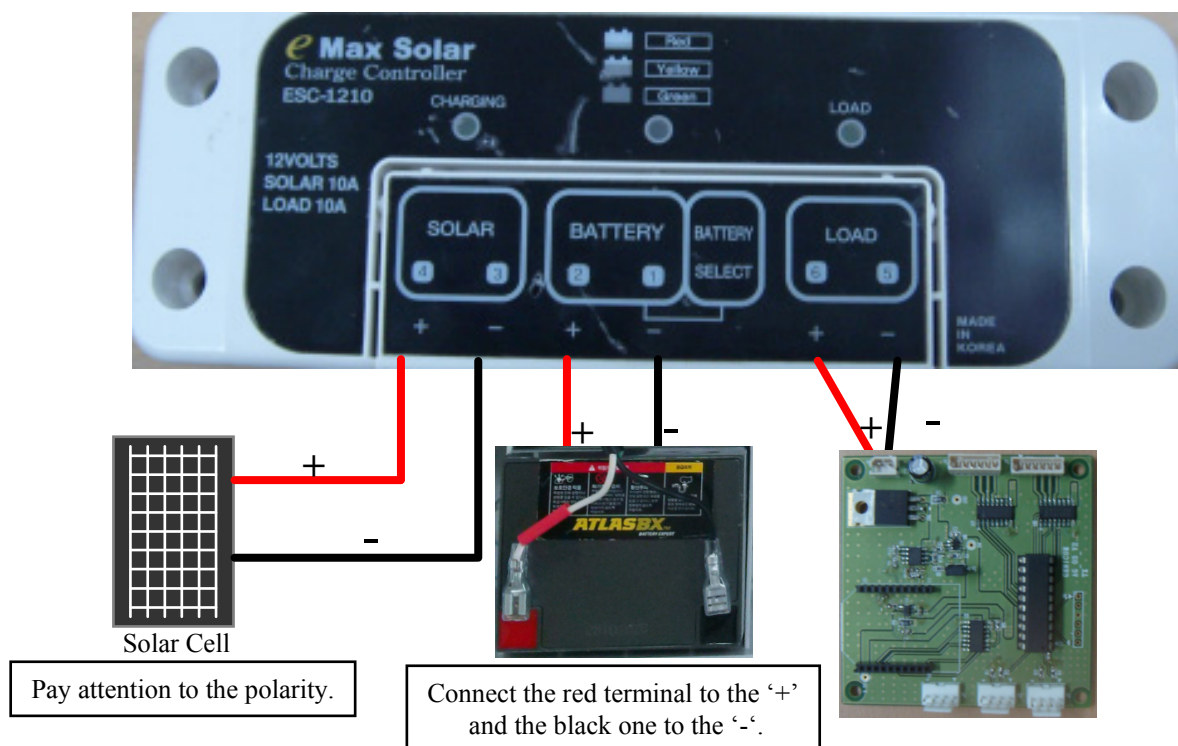

Fig17. Internal line connection diagram
- ①. Release power cords connected to each jack by using a Phillips-head screwdriver, and disassemble it by unfastening the screws on four corners.
- ②. Pay proper attentions to avoid a risk of electric shock when removing the battery connecting terminal and the solar terminal.
- ③. After replacement, re-assemble them in the reverse order. connect the terminals referring to the fig17.
- ④. Take proper care when you make connections not to give a damage to the product.